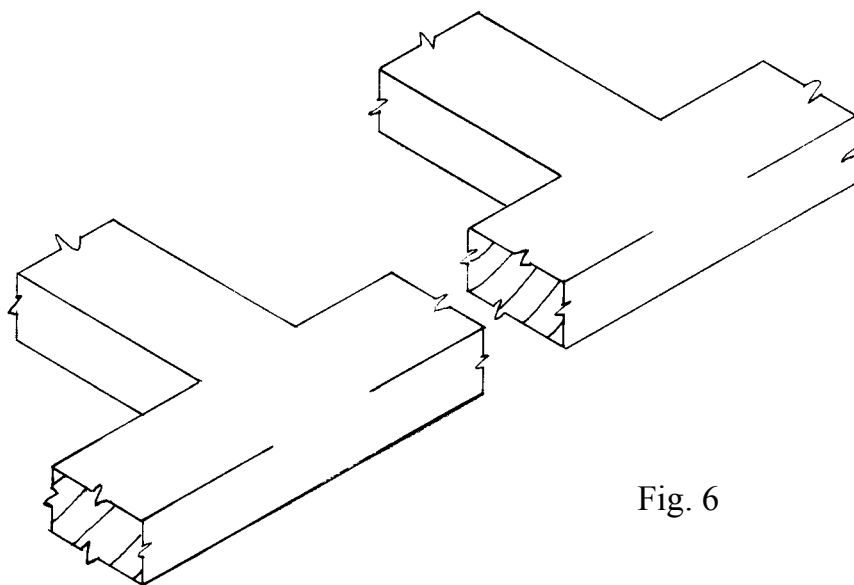

Fig. 6
25. Complete the sketches shown in Figure 6 below to show a Dovetail halving (half-lap dovetail) and a Bridle joint.